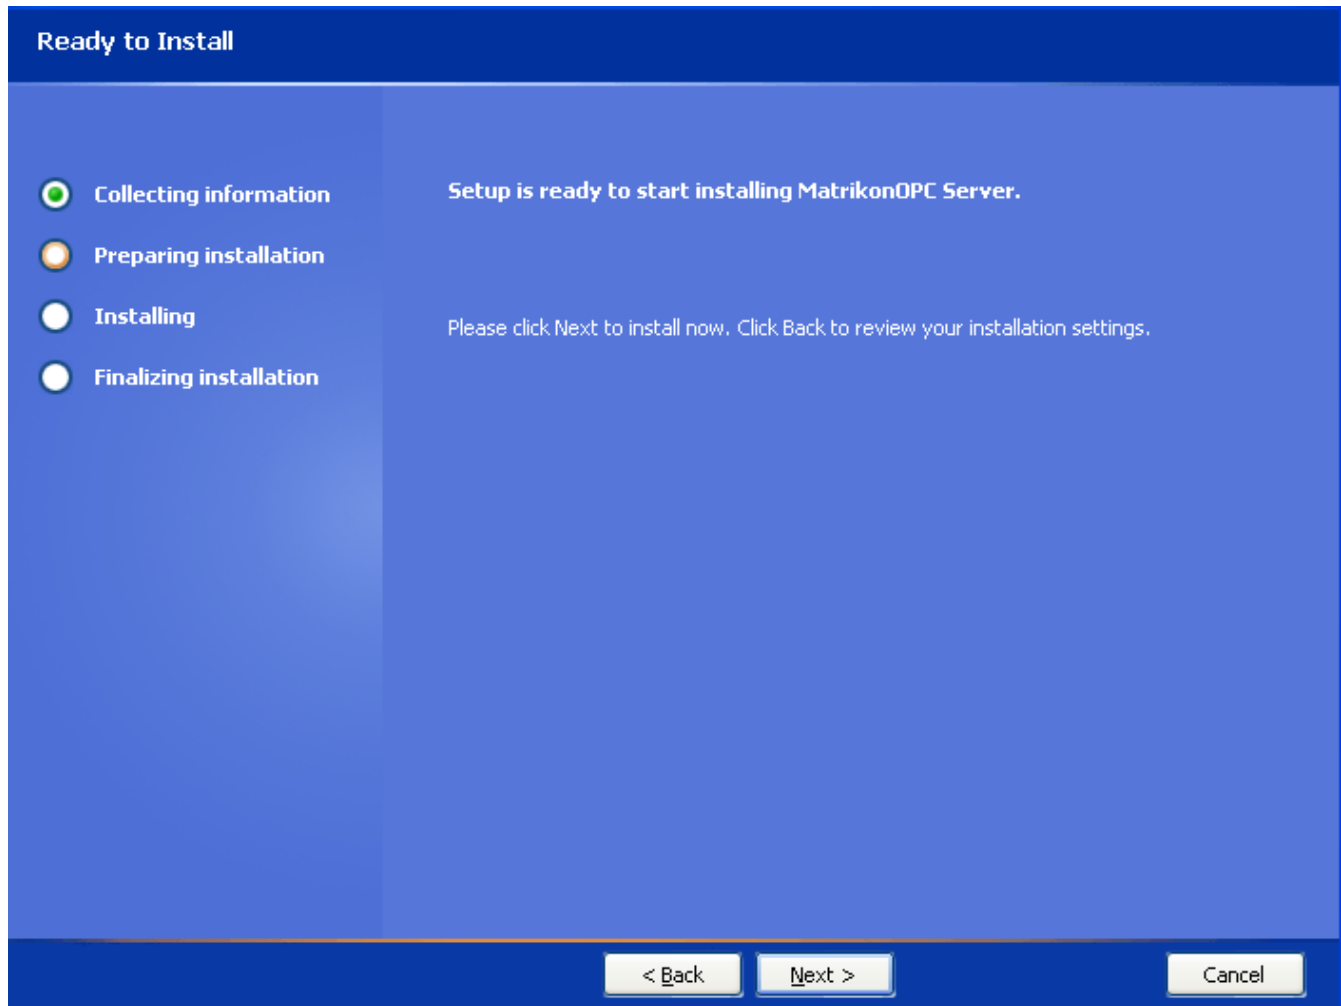

Figure 75 - Ready to Install Screen
18. Click on the **Next** button. The **Ready to Install** screen (Figure 75) appears.